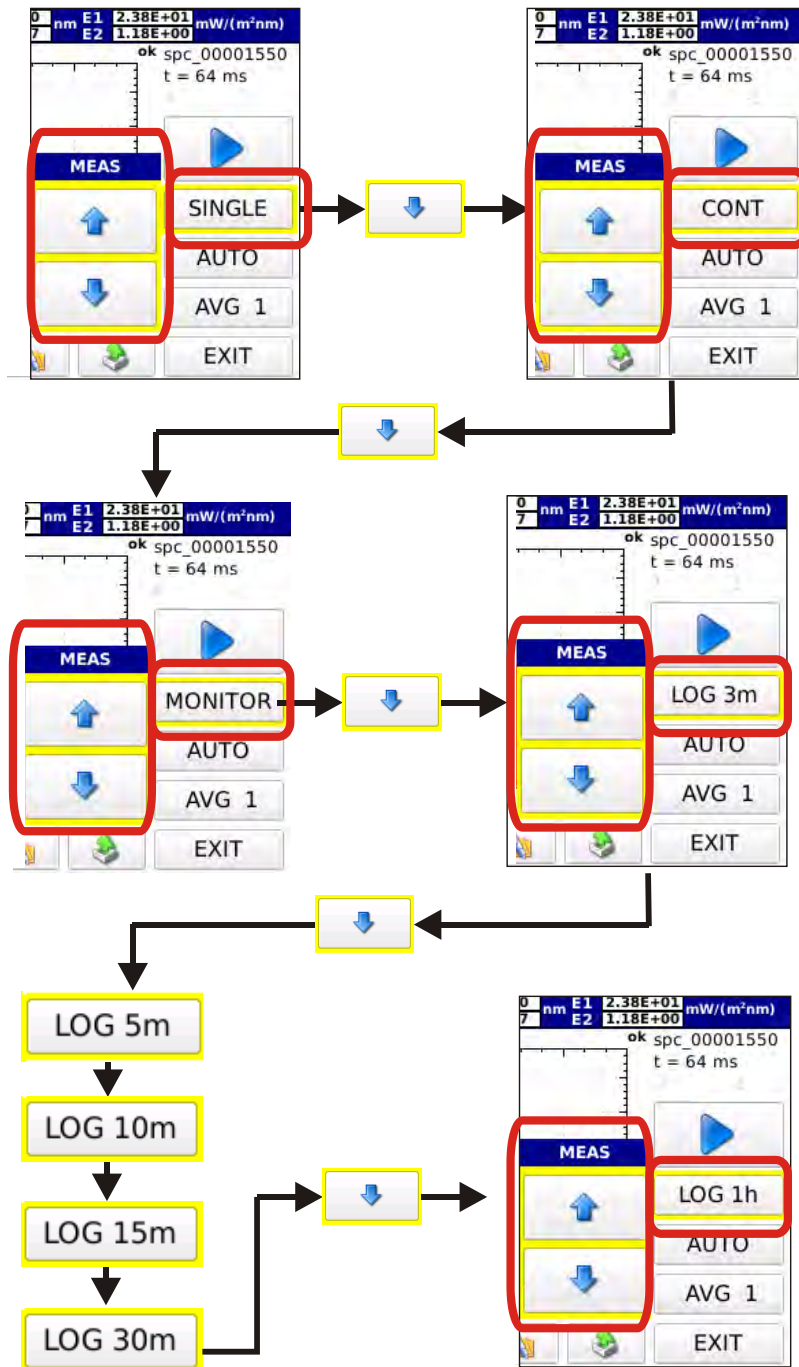

Figure 3.11: Select the operating mode using the arrow keys. Selection arrow keys disappear when pressing any other key.
3.2.1 Select the operating mode of the instrument among the four available modes (SINGLE, CONTINUE, MONITOR, LOGGING). By pressing **SINGLE** the two scroll arrow cursors are displayed, pressing  makes the operating mode change as shown on figure 3.11.